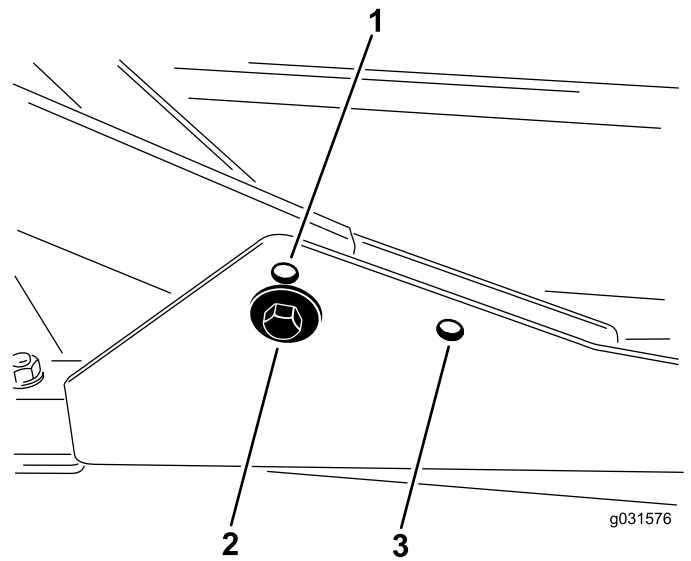

Figure 17
- For heights of cut in the 2 to 7.6 cm (3/4 to 3 inches) range, mount the front carrier frames in the lower, front mounting holes (Figure 17).
- For heights of cut in the 6.3 to 10 cm (2-1/2 to 4 inches) range, mount the front carrier frames in the upper, front mounting holes (Figure 17).
For all heights of cut, mount the rear cutting unit in the rear mounting holes (Figure 17).